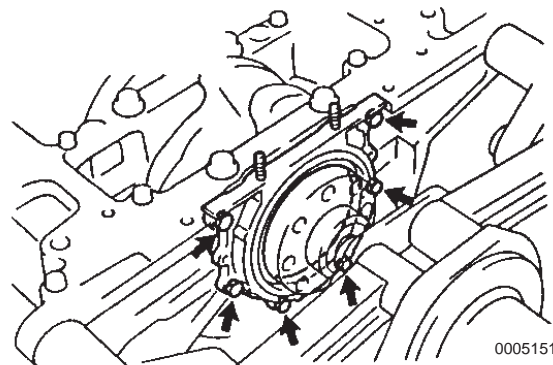

Figure 5-154
5. Install the case using 6 bolts and torque to 65 kgf-cm, 6.37 N·m (57.3 lb-in.) (**Figure 5-154**).